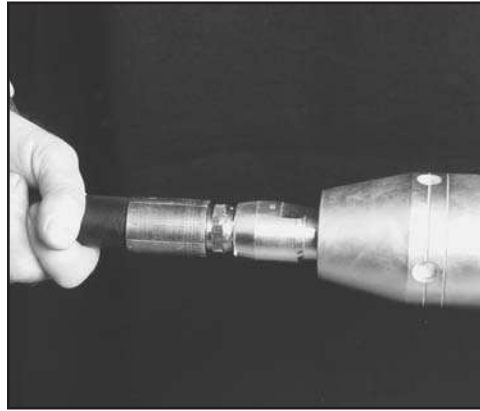

FIG. 36: PULL CONTROL STUD INTO REVERSE
1. With tool fully assembled, put control stud into reverse position (see Fig. 36).